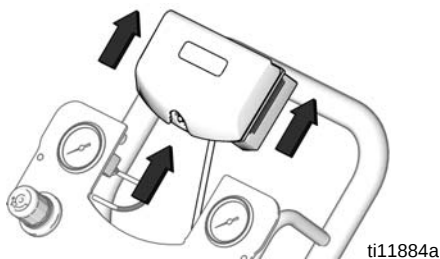

FIG. 10. Remove DataTrak
- 3. Remove DataTrak module from bracket. See FIG. 10. Take module and attached cable to a non-hazardous location.